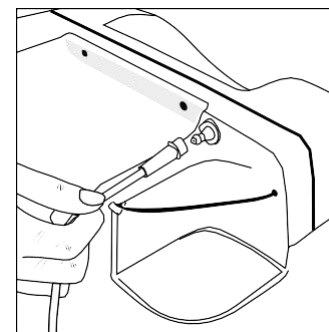
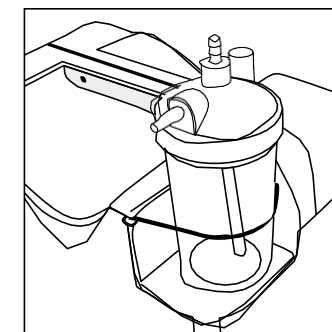

Figure 3
Figure 4
- ① If you are not using a humidifier, connect your nasal cannula to a oxygen outlet port, as shown in the Figure 3.
- ② If you are using a humidifier, follow the steps below:
- B. Mount the filled humidifier into the strap on the top of device, as shown in the Figure 4.